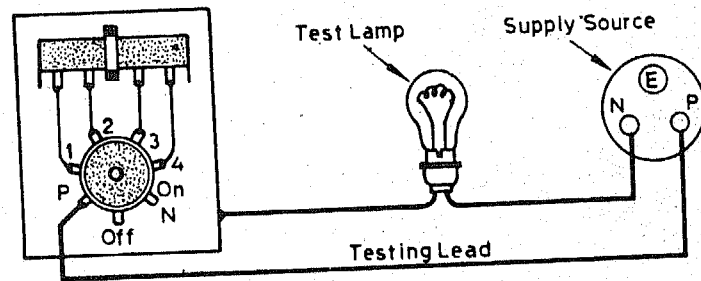

Fig. 26.4 Leakage Test.
- (viii) Check the earth and leakage fault of the switch and resistance with the body. Connect the testing lead as shown in Fig. 26.4. Observe light of the lamp. If lamp does not glow there is no earth fault.